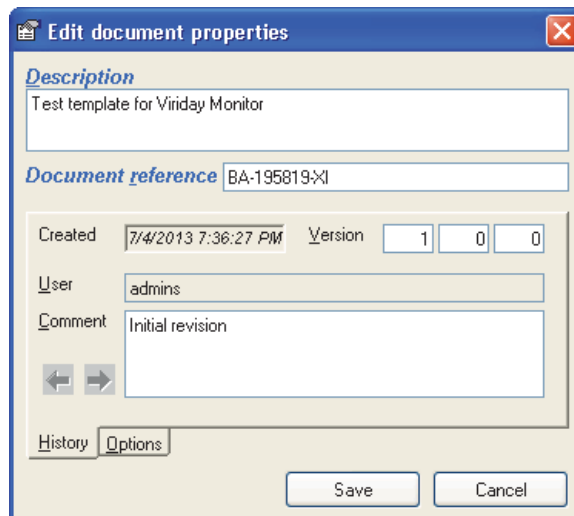

Figure 4-23. Different Parts of the Test Guide
1. Click the **Document Properties** button on the main toolbar. The window shown in Figure 4-23 appears.